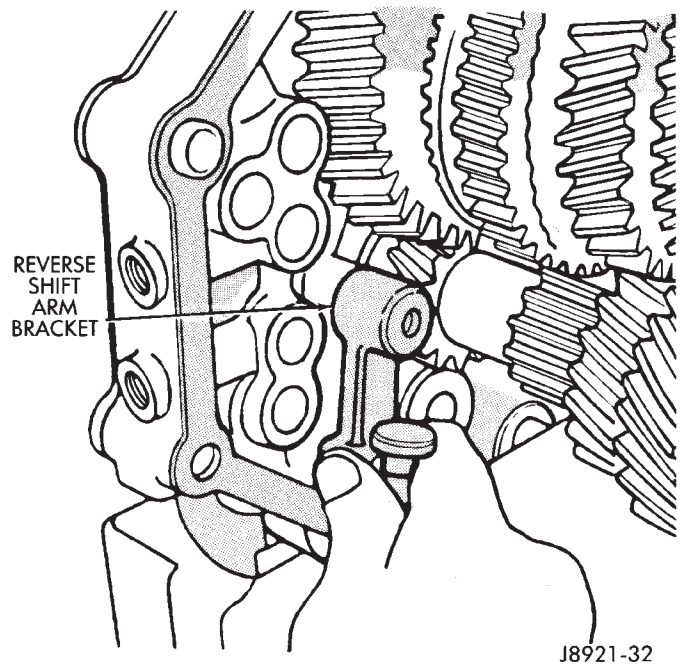

Fig. 32 Removing Reverse Shift Arm Bracket
(6) Remove reverse shift arm bracket (Fig. 32).